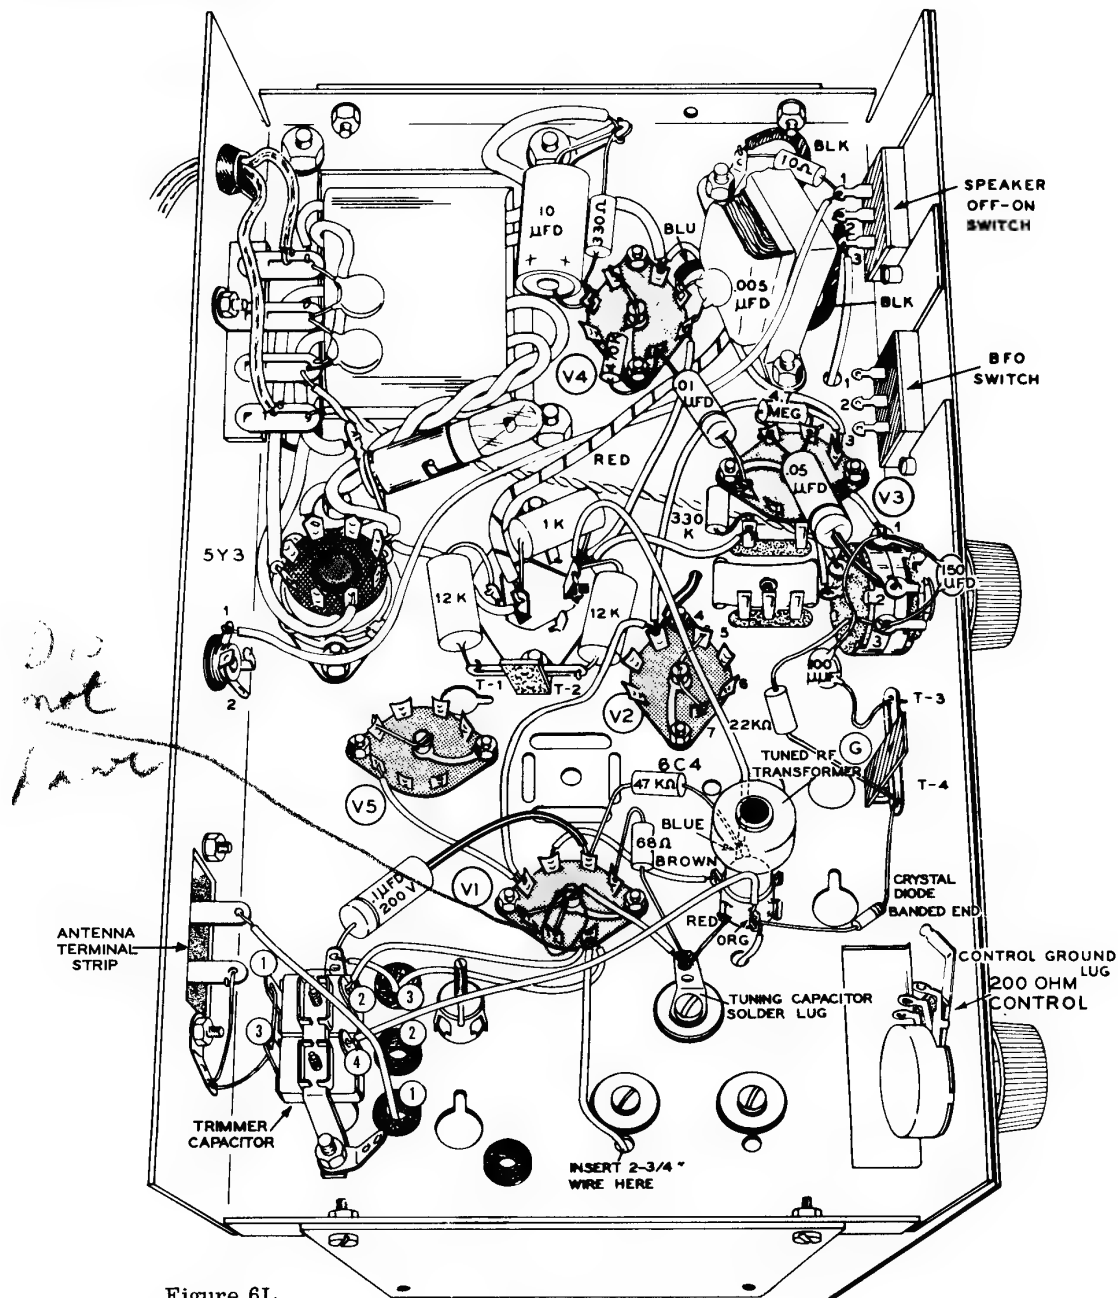

Figure 6L
Refer to Figure 6L for the following steps.
- (✓) ① Insert one stripped end of a 2-3/4" length of hookup wire through the hole (indicated in Figure 6L) located near the mounting screw for the tuning gang. Connect this wire to the tuning capacitor lug above this hole on top of the chassis (S).
- (✓) ① Connect the other end of this 2-3/4" wire to lug 1 of tube socket V1 (NS).
- (✓) P Connect a short length of bare wire (remove all the insulation from a length of hookup wire) from lug 4 to the center post (S) of tube socket V5.
- (✓) P Connect a 2-1/2" length of hookup wire from lug 4 of tube socket V1 (S) to lug 3 of tube socket V5 (S).
- (✓) ① Connect a length of bare wire from lug 2 (S) to the center post (S) of tube socket V1.